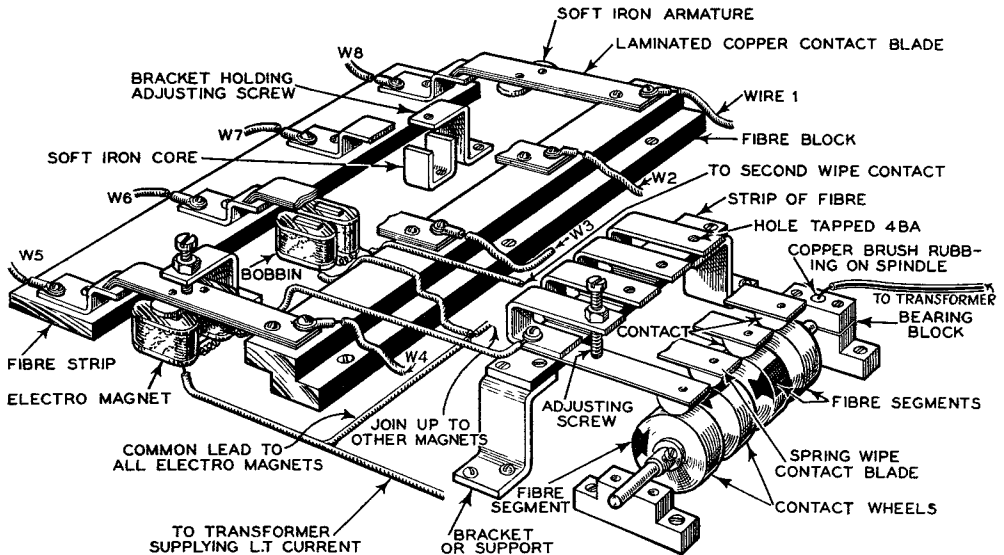
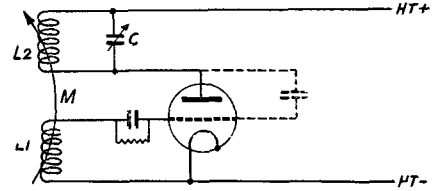

Fig. 2.—PICTORIAL VIEW OF ELECTRO-MAGNETIC FLASHING SWITCH. The whole apparatus is to be mounted on a baseboard
Fig. 1.—A simple form of oscillator.
The shape of the soft iron core can be seen in Fig. 2, the material being rectangular in section. The bobbins have fibre or sheet ebonite ends glued to a
This is made from a piece of strip brass and has two screw holes for fixing to the base and one placed centrally in the upper bend. This latter hole should be tapped out 2 B.A. to accommodate an adjusting screw to regulate the distance between the armature and the poles of the magnets. When this screw is so adjusted as to give sharp contact and break, it is locked in position with the nut provided, see Fig. 2.
varying the pressure on the contact wheels. The bracket and blade assembly is in turn supported on a fibre bridge held firmly in place by two metal supports. The drawing, Fig. 2, shows four wheels and four wipe contacts, but, of course, the number can be varied to suit the individual requirements. The distance between the blades must be the same as the space between the wheels and this is decided by the thickness of the distance washers. A pulley is attached to one end of the shaft to take a small belt from the driving motor which can be a clockwork one, if desired, as the friction of the wipe contacts is very little.
**P**RACTICALLY all oscillators for amateur transmission purposes, apart from crystal oscillators, are based on the simple tuned plate, or tuned grid arrangement. In the circuit given in Fig. 1, in which the plate circuit only is tuned, the value of mutual inductance necessary to sustain oscillations is given by:—
Fig. 2.—How the circuit in Fig. 1 can be converted into a low-powered transmitter by the insertion of a key in the H.T.—lead and the addition of suitable aerial coupling.
this circuit into a low-powered transmitter (Fig. 2).